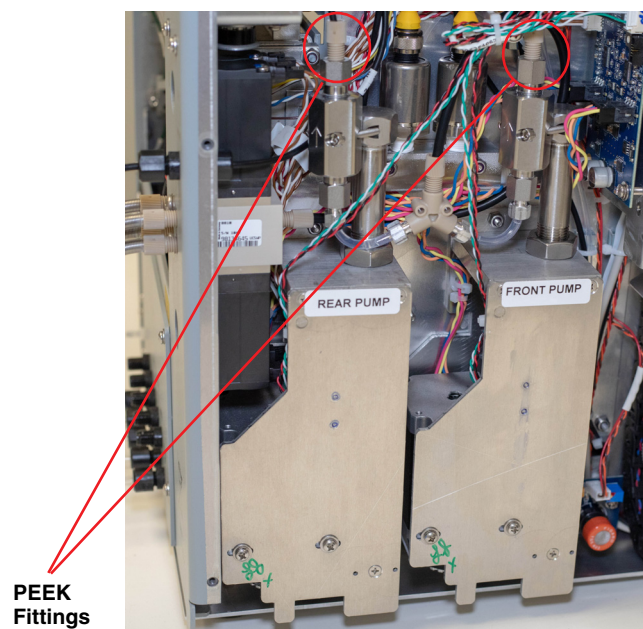

Figure 1: NextGen pumps
3. There is a check valve housing mounted to the top of each pump cylinder. **Do not remove the check valve housing from the cylinder.** Disconnect the PEEK fitting from the top of each check valve housing (Figure 1). Unscrew the 5/16" x 24 metal nuts from the bottom of each check valve housing (Figure 1).
4. Remove the two screws securing the solvent select valve to the back panel. **Do not disconnect the electrical connections to this valve.** This will allow the rear pump to be removed by manipulating the pump past the solvent selection valve (Figure 1).
5. With the 5/16" nut driver, remove the one top nut and loosen the bottom two nuts that attach the pump to the frame (Figures 1 & 2).
3. There is a check valve housing mounted to the top of each pump cylinder. **Do not remove the check valve housing from the cylinder.** Disconnect the PEEK fitting from the top of each check valve housing (Figure 1). Unscrew the 5/16" x 24 short nuts from the bottom of each check valve housing (Figure 1).